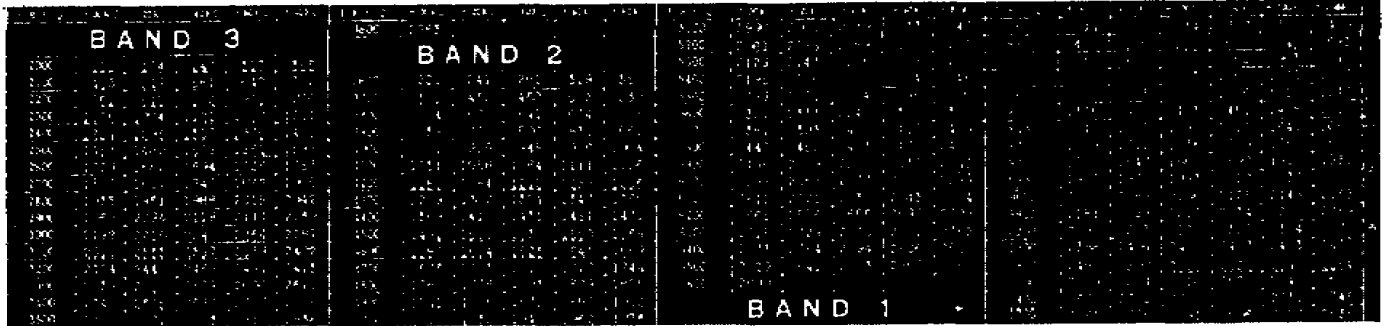

Figure 14. Typical transmitter dial calibration chart.
a. General. Prior to operation, **FREQ. CONTROL (I)** on the transmitter subassembly of the RT-77(*)/GRC-9 (fig. 9) must be adjusted for transmission on the assigned operating frequency. Adjustment of **FREQ. CON-** controls the dial settings of two dials which are illustrated for *typical* settings in figure 15. The dial numbers *do not* represent numerical values of operating frequencies; they are used only to facilitate dial setting procedures when the transmitter is being arranged for operation at a particular frequency. Dial setting numbers are obtained from the dial calibration chart that is located on the front panel of each transmitter. A *typical* chart is illustrated in figure 14. Three possible procedures can be used to determine proper dial settings for the assigned operating frequency:
- (1) If the assigned operating frequency is within band 1, 2, or 3 (2 to 11.7 mc) and can be *evenly* divided by 100, follow the procedures in b below.
- (2) If the assigned operating frequency is within band 2 (2 to 3.6 mc) or band 3 (3.6 to 6.6 mc) and can be *evenly* divided by 20, or if the assigned frequency is within band 1 (6.6 to 11.95 mc) and can be *evenly* divided by 50, follow the procedures in c below.
- (3) If the assigned operating frequency *does not* meet the criteria specified in either (1) or (2) above, follow the procedures in d below.
Note: Examples in the procedures of b, c, and d below reflect use of the *typical* dial calibration chart illustrated in figure 14. However, data (dial-setting numbers) in the calibration charts will differ for each transmitter. Therefore, when using these procedures to determine dial settings for a specific transmitter, use the dial calibration chart located on the front panel of the transmitter.